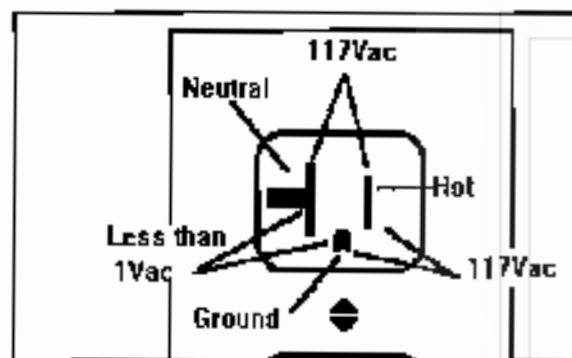

Figure 1.2
A grounded **DEDICATED** electrical outlet rated at 120 volts, 60Hz, single phase and capable of delivering 20 amperes must be available within six feet of the vendor. See page 1.05 figure 1.2.
7. Plug machine into a 120Vac 20AMP **DEDICATED** receptacle. Wall outlet must be wired for proper voltages shown below in Figure 1.2. Set all switches to the on position. On the filter head, open the water valve lever by slowly turning fully clockwise. Check that the tank starts to fill and that there are no leaks.